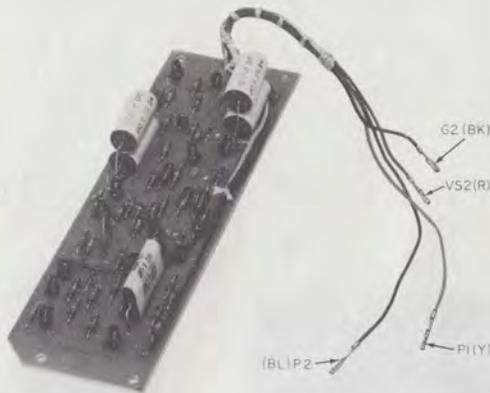

Fig. 4—KS-20721, List 11 Pulse Corrector
- Corrector, Pulse, KS-20721, L11 (Fig. 4)
- 2.03** The KS-20721, List 11 pulse corrector (Fig. 4) is not required for initial installations. It shall be used only after it has been determined that the dial pulses received from the customer-provided equipment (CPE) meet all requirements specified in the Technical Reference and pulsing problems still exist. It should not be used to correct poor customer pulses. When adding the List 11 pulse corrector to the List 1 coupler, remove wiring option Q and provide option V as shown in Table B.